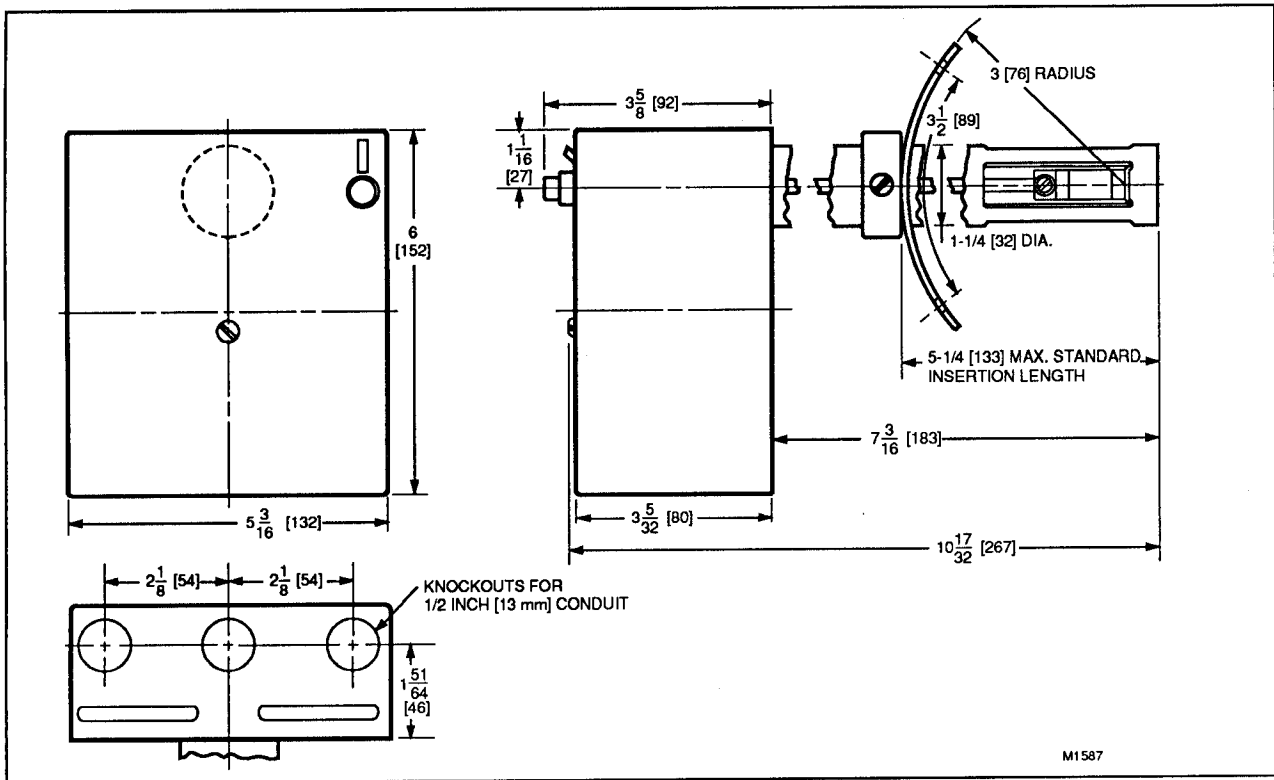

FIG. 1—INSTALLATION DIMENSIONS IN INCHES AND [MILLIMETERS].
**DIMENSIONS:** Refer to Fig. 1.